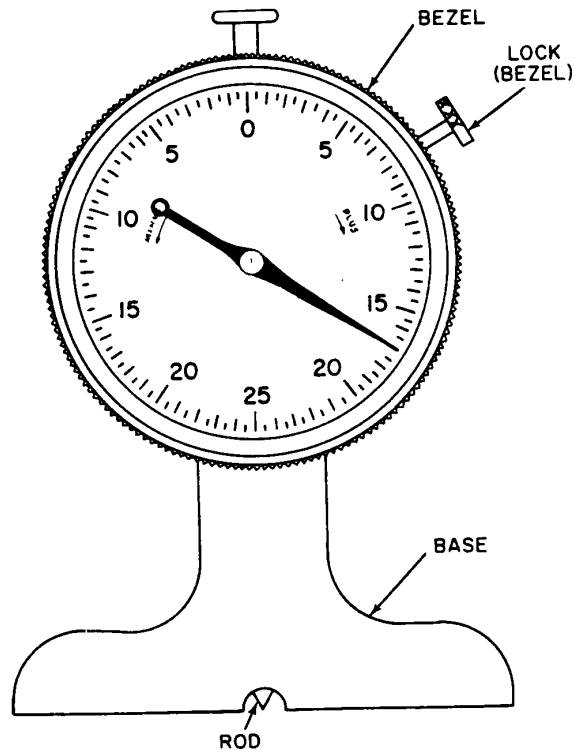

Figure 3. Knife edge normally retracted dial indicating depth gage.
- (2) Knife edge normally retracted type (fig. 3).